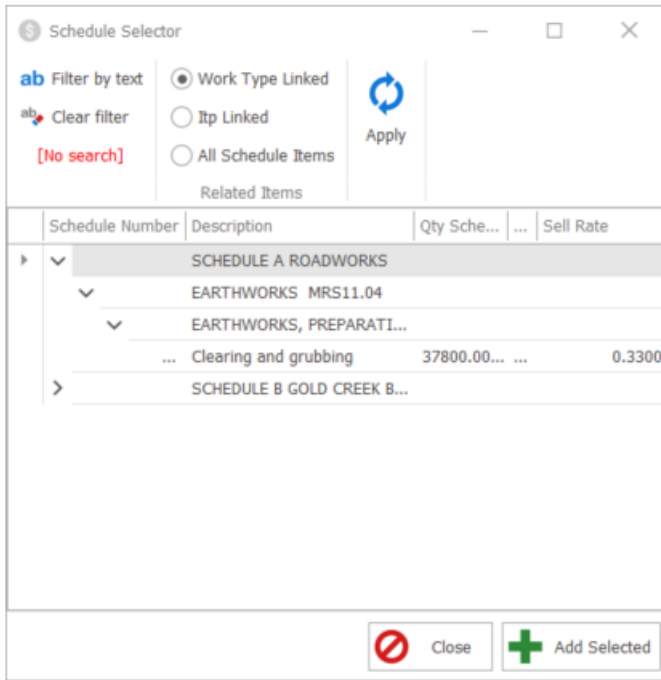
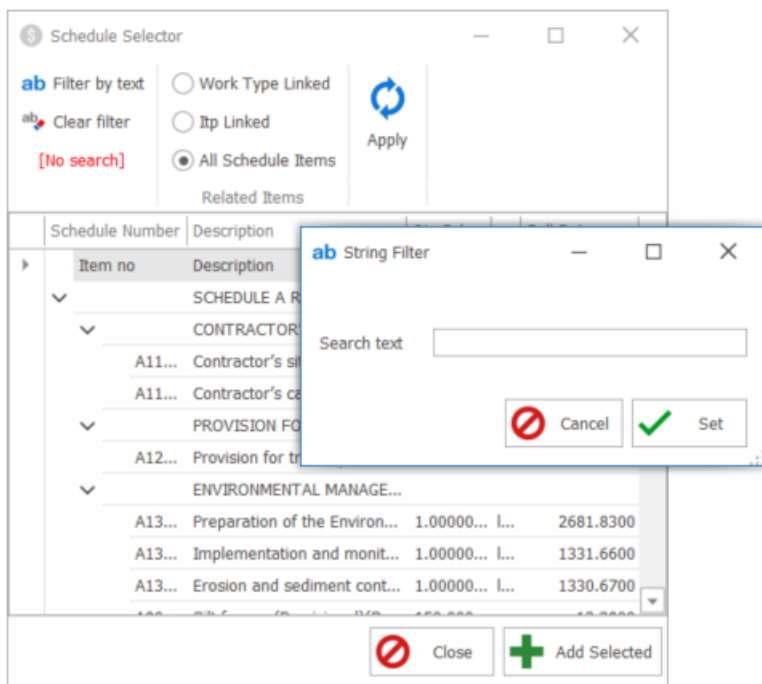

Figure 58 The Schedule Item selector showing Schedule Items related to the CG Work Type
Figure 59 The Schedule Item selector showing all Schedule Items and the search function
2. With the Lot Register open and CGRWNB001 selected, double click on the *Quantities* heading in the related item list. You will see the schedule selector with a selection of the Schedule Items related to the currently selected Lot's Work Type selected - similar to Figure 58. You can show all the Schedule Items by clicking on *All Schedule Items* or search them using the *Filter by Text* both in the ribbon menu as in Figure 59.